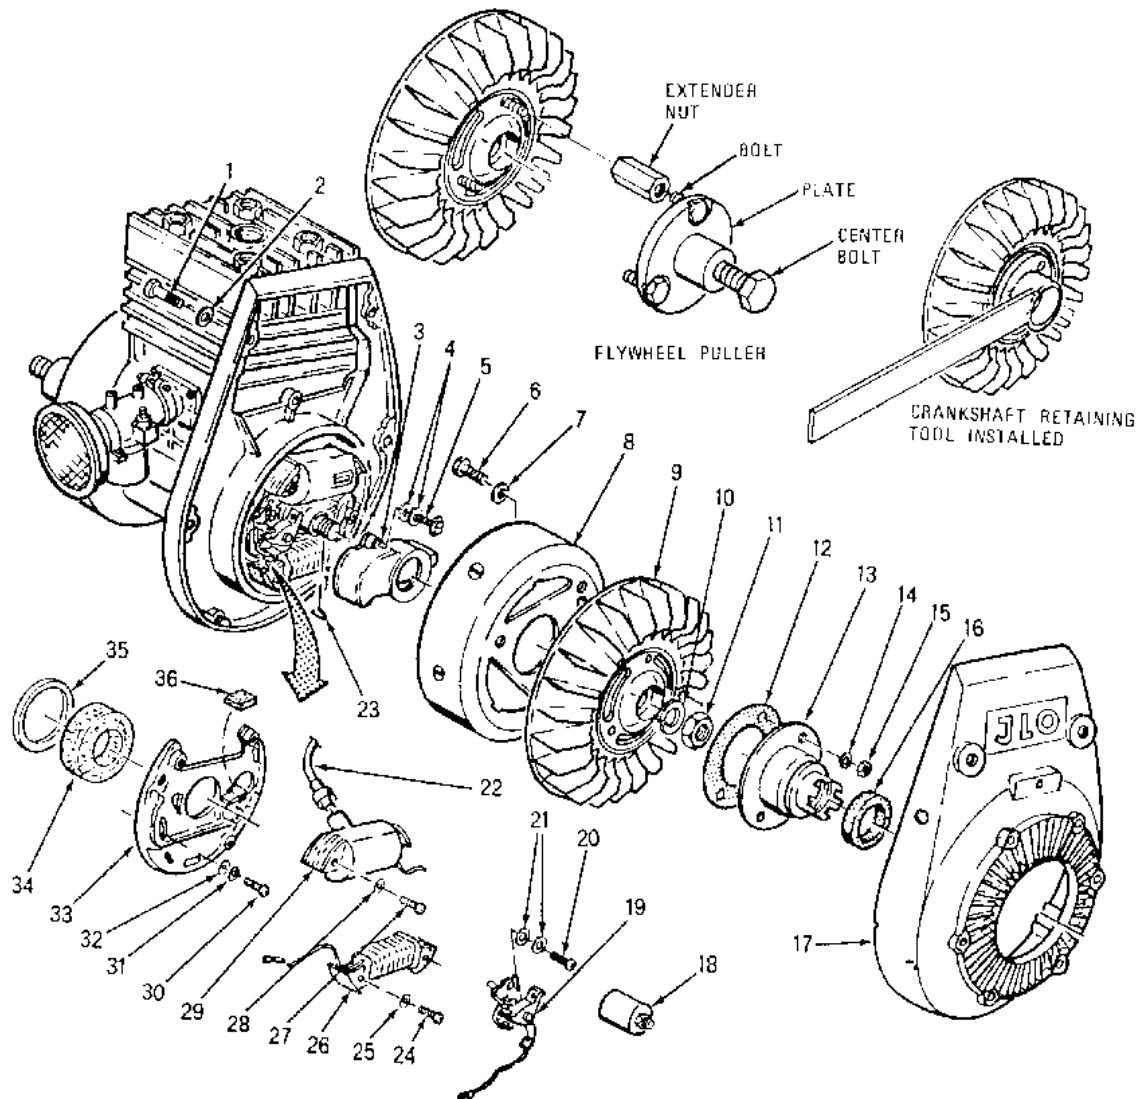

Figure 1, LDU
- Disassembly (Figure 1)
- Remove ring (16), three nuts (15), washers (14), carrier (13) and gasket (12).
- Inspect coil for continuity between primary winding terminal and ground then between high voltage terminal and ground. Reject if resistance is significantly above or below 0.5 ohms between primary winding terminal and ground and 5 kilo-ohms between high voltage terminal and ground. (Figure 1)